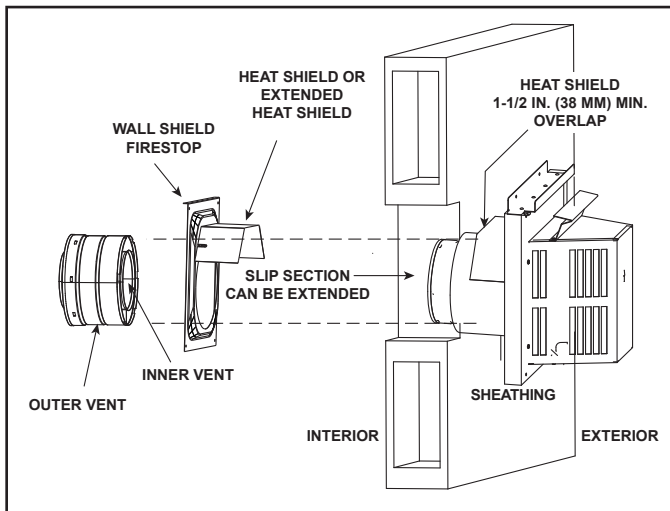

Figure 7.16 Venting Through the Wall - PVI-SLP
- **DO NOT** remove the heat shields attached to the wall shield firestop and the horizontal termination cap (shown in Figure 7.16).
There are two sections of the heat shield. One section is factory-attached to the wall shield firestop. The other section is factory-attached to the cap. See Figure 7.16.